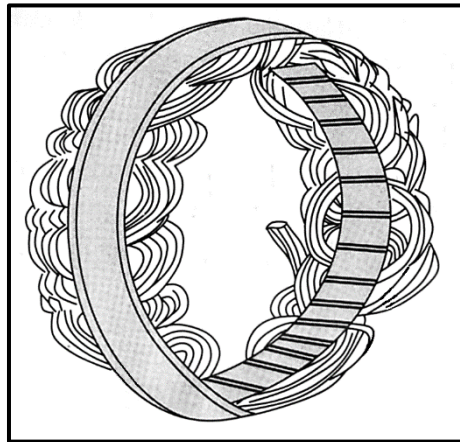

FIGURE 10.8
- 10.8 FIGURE 10.8 below shows a component of an alternator. Answer the questions that follow.
- 10.8.1 Identify the component in FIGURE 10.8 above. (1)
- 10.8.2 What is the function of the component shown in FIGURE 10.8 above? (2)
- 10.8.3 Draw TWO labelled sketches to show the two types of windings for the component in FIGURE 10.8. (4)